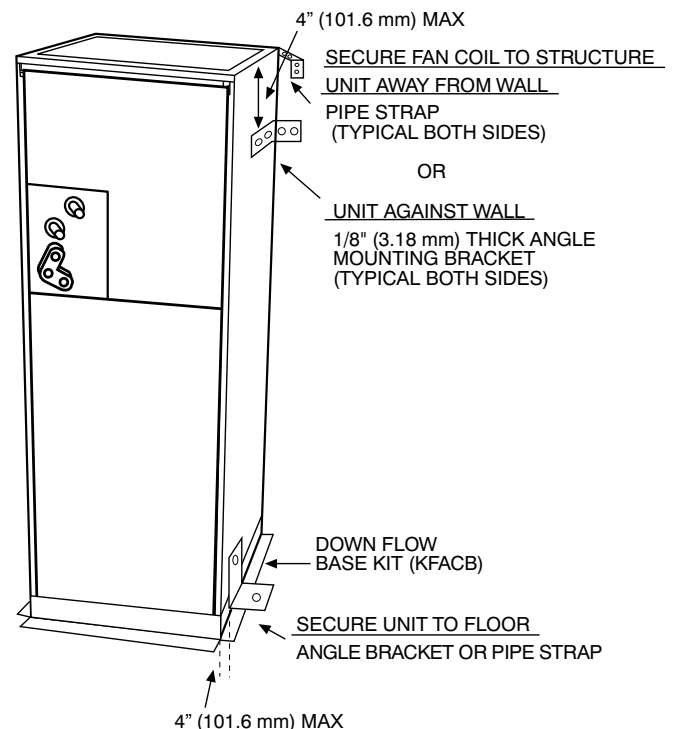

Fig. 7 – Mobile Home or Manufactured Housing Applications
- b. If fan coil is against wall, secure fan coil to wall stud using 1/8-in (3 mm) thick right-angle brackets. Attach brackets to fan coil using no. 10 self-tapping screws and to wall stud using 5/16-in. lag screws (Fig. 7).